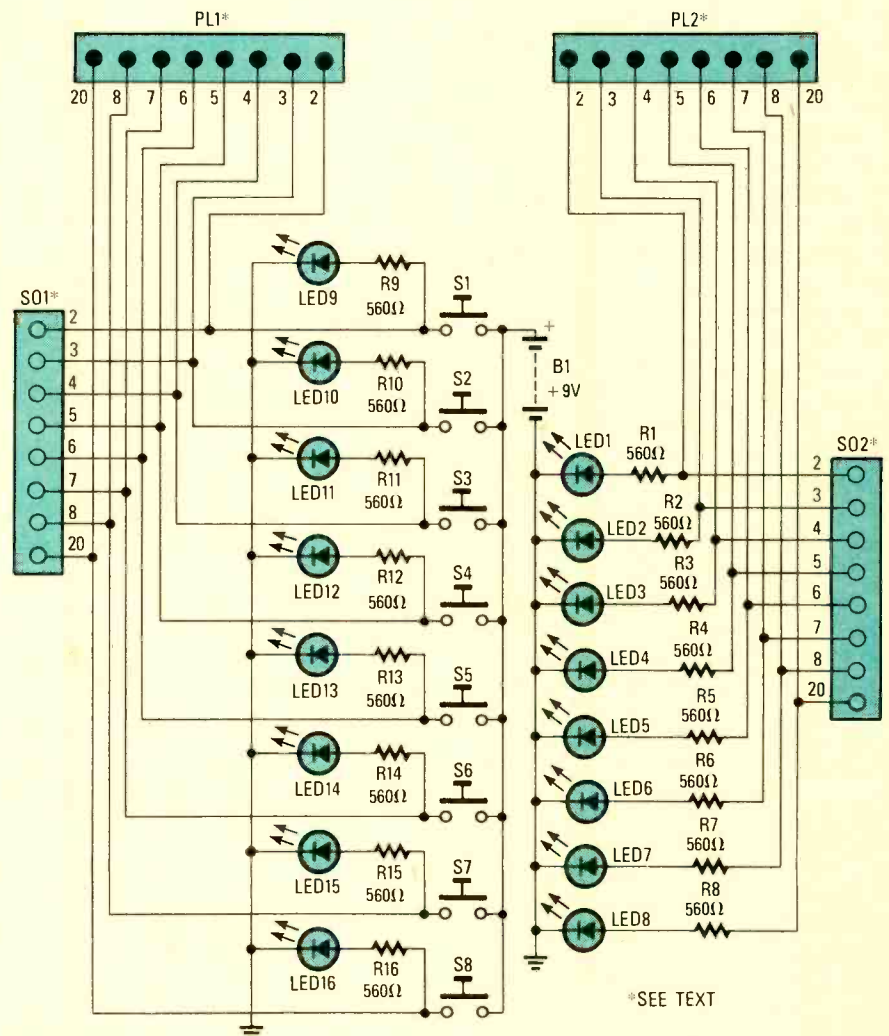

Fig. 1. Because of its low component count, the RS-232 Cable Tester makes a nice one-evening project.
**The Circuit.** The schematic diagram for the RS-232 Cable Tester is shown in Fig. 1. It uses a total of eight pushbutton switches and eight LED pairs to test the continuity of the eight most important lines of an RS-232 cable.